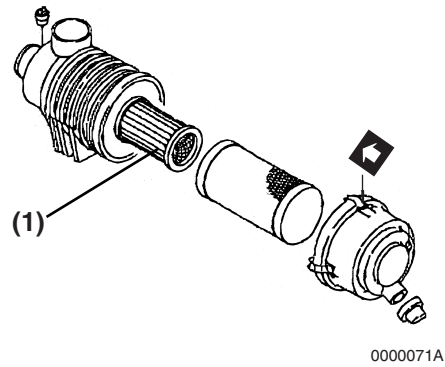
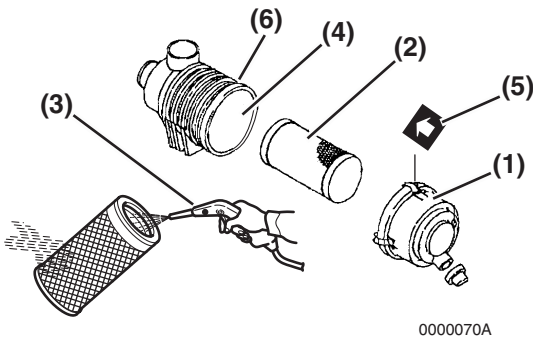

Figure 5-13
Figure 5-12
Note that a typical air cleaner is shown in **Figure 5-12** and **Figure 5-13** for illustrative purposes only.
1. Unlatch and remove the air cleaner cover (**Figure 5-12, (1)**).
2. Remove the element (**Figure 5-12, (2)**) (outer element if equipped with two elements).
3. Blow air (**Figure 5-12, (3)**) through the element from the inside out using 42 - 71 psi (0.29 - 0.49 MPa; 3.0 - 5.0 kgf/cm²) compressed air to remove the particulates. Use the lowest possible air pressure to remove the dust without damaging the element.
If the air cleaner is equipped with a double element, only remove and replace the inner element (**Figure 5-13, (1)**) if the engine lacks power or the dust indicator actuates (if equipped).
6. Install the element into the air cleaner case (**Figure 5-12, (4)**).
7. Install the air cleaner cover making sure you match the arrow (**Figure 5-12, (5)**) on the cover with the arrow on the case (**Figure 5-12, (6)**).
Replace the air cleaner element (**Figure 5-12, (2)**) every 500 hours even if it is not damaged or dirty.
When replacing the element, clean the inside of the air cleaner case (**Figure 5-12, (4)**).
If the air cleaner is equipped with a double element, only remove and replace the inner element (**Figure 5-13, (1)**) if the engine lacks power or the dust indicator actuates (if equipped). This is in addition to replacing the outer element.